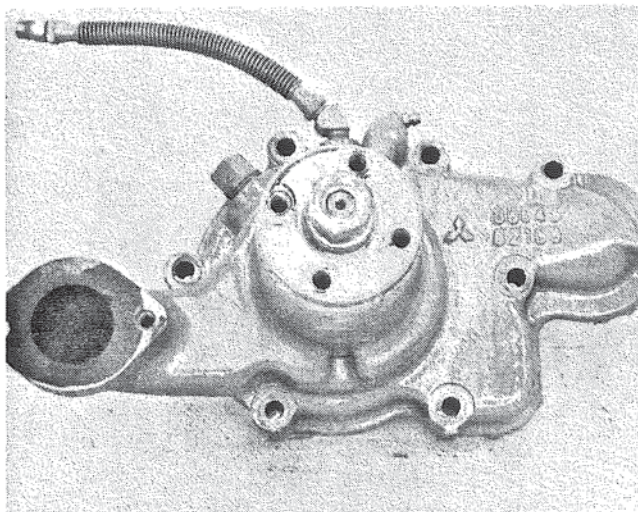

Figure 16. Installing Flange.
6. Install flange and flange nut. Figure 16.